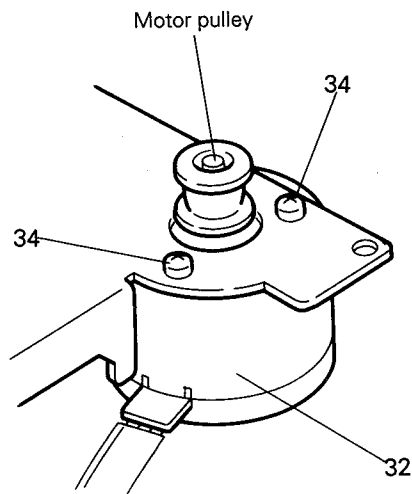

Fig. 7-25
■ **Capstan motor and Flywheel** (Fig. 7-25 through 7-27)
1. Place the cassette mechanism upside down to expose the bottom. (Fig. 7-25)
2. Remove three screws (37) retaining the FR bracket assembly from the chassis base. (Fig. 7-25)
3. Expand two pawls (B, C) retaining the FR bracket assembly in the direction of the arrow to remove them. (Fig. 7-25)